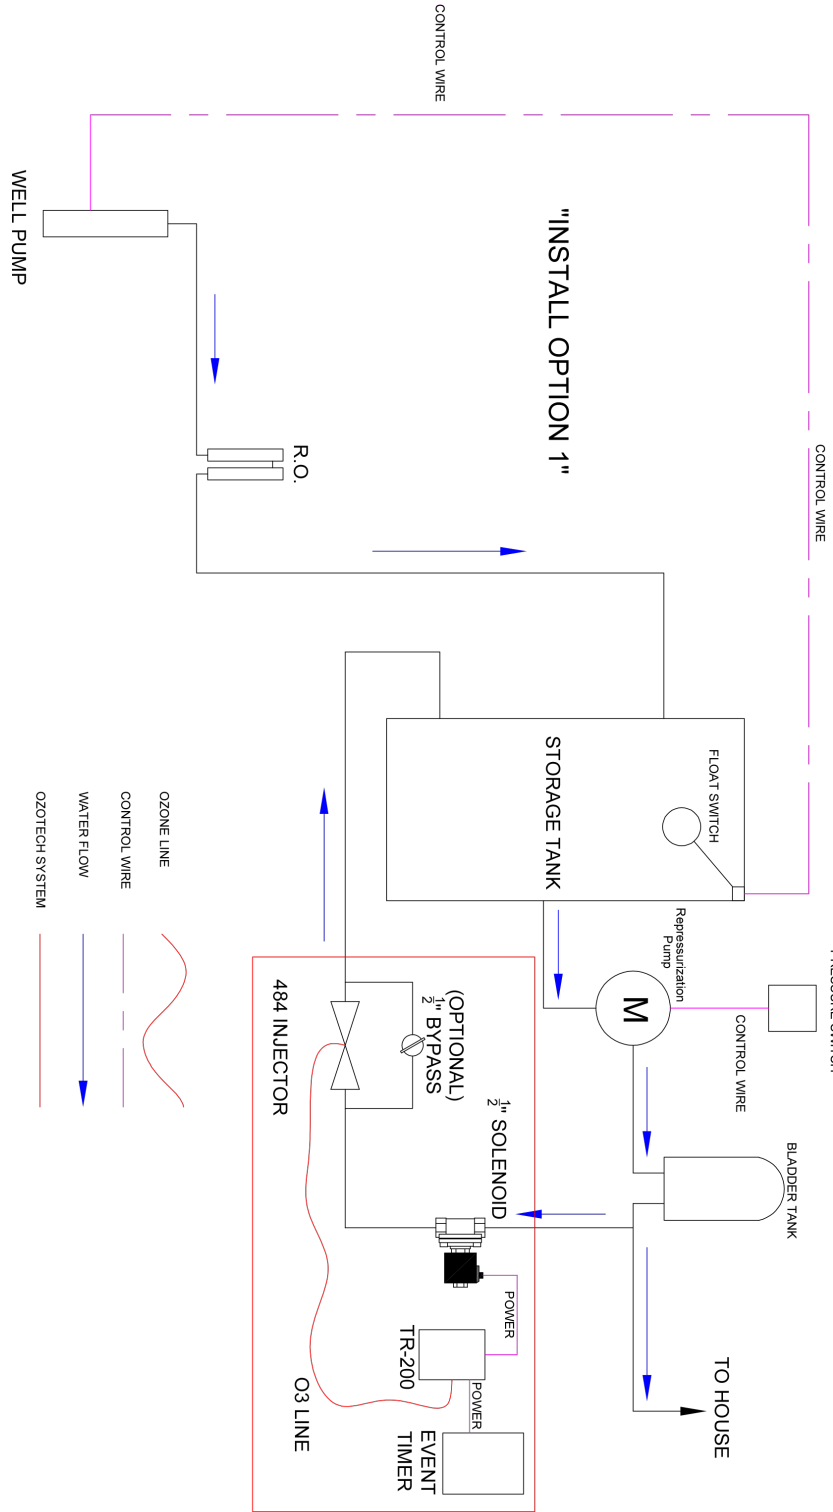

Figure 1.0 Suggested TR-200 Installation Plumbing Diagram
5. Plumb the solenoid valve and venturi Injector into your tank recirculation plumbing. See the suggested plumbing diagram in Figure 1.0 below. Note the directional flow arrows on the components and within the diagram.